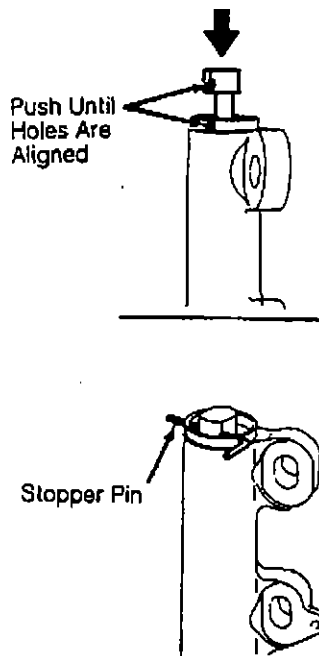

Fig. 6: Installing Tension Adjuster Rod Stopper Pin
1) Ensure timing marks are aligned. Using a press, align holes in belt tension adjuster rod and adjuster body, and push rod into body. DO NOT allow press pressure to exceed 2205 lbs. (992 kg). Install a stopper pin with a diameter of .059" (1.50 mm) into holes in adjuster body and rod. See Fig. 6.